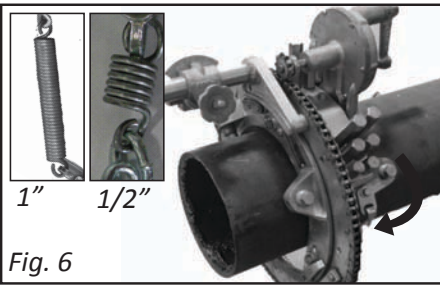

Fig. 6
2. Mount Compact machine to pipe/tube. Clamp boomer, spring, chain (F, Fig. 6) around pipe.